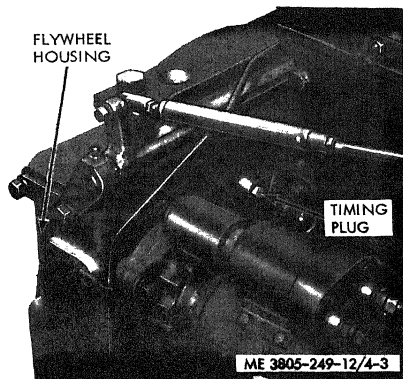

Figure 4-3. Flywheel housing timing plug.
(1) Remove the plug from the left rear of the flywheel housing (fig. 4-3). Slowly turn the flywheel to close No. 1 exhaust and inlet valves, and install timing bolt L2070 in the flywheel.